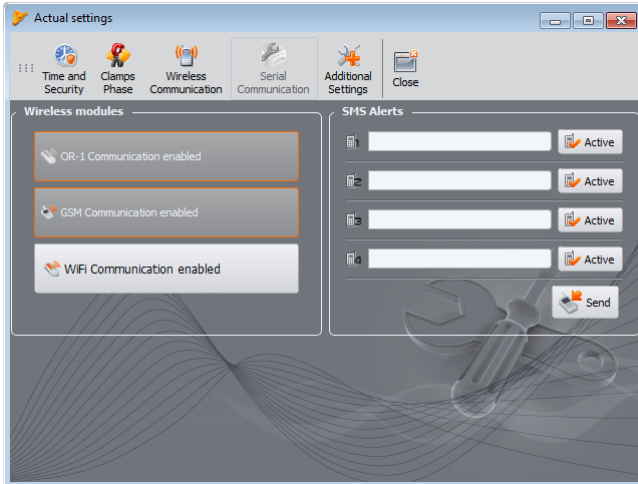

Fig. 33. Actual settings → Wireless connection.
**Wireless connection** (Fig. 33) includes the following elements: